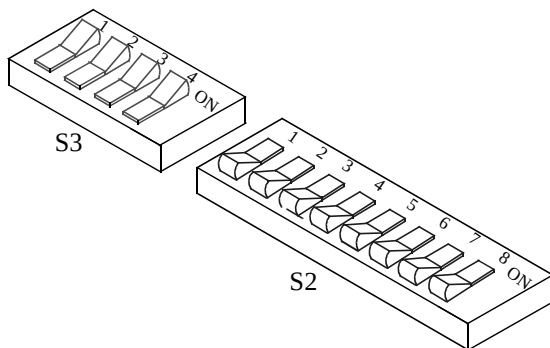

Figure 7-14 NEW HSDB SWITCH SETTINGS
1. Switch settings on the MPC for RS-485 (new style) operation are shown in Figure 7-14. S002 all Section On. S003 all Section Off.